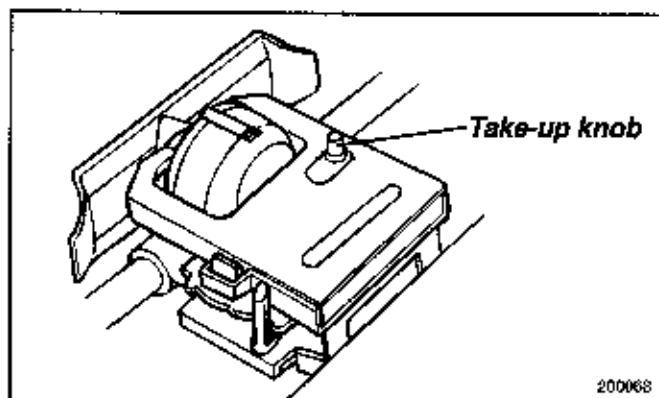

Figure 6-9
4. Turn the knob in the direction of the arrow to take up slack in the ribbon (see Figure 6-9).